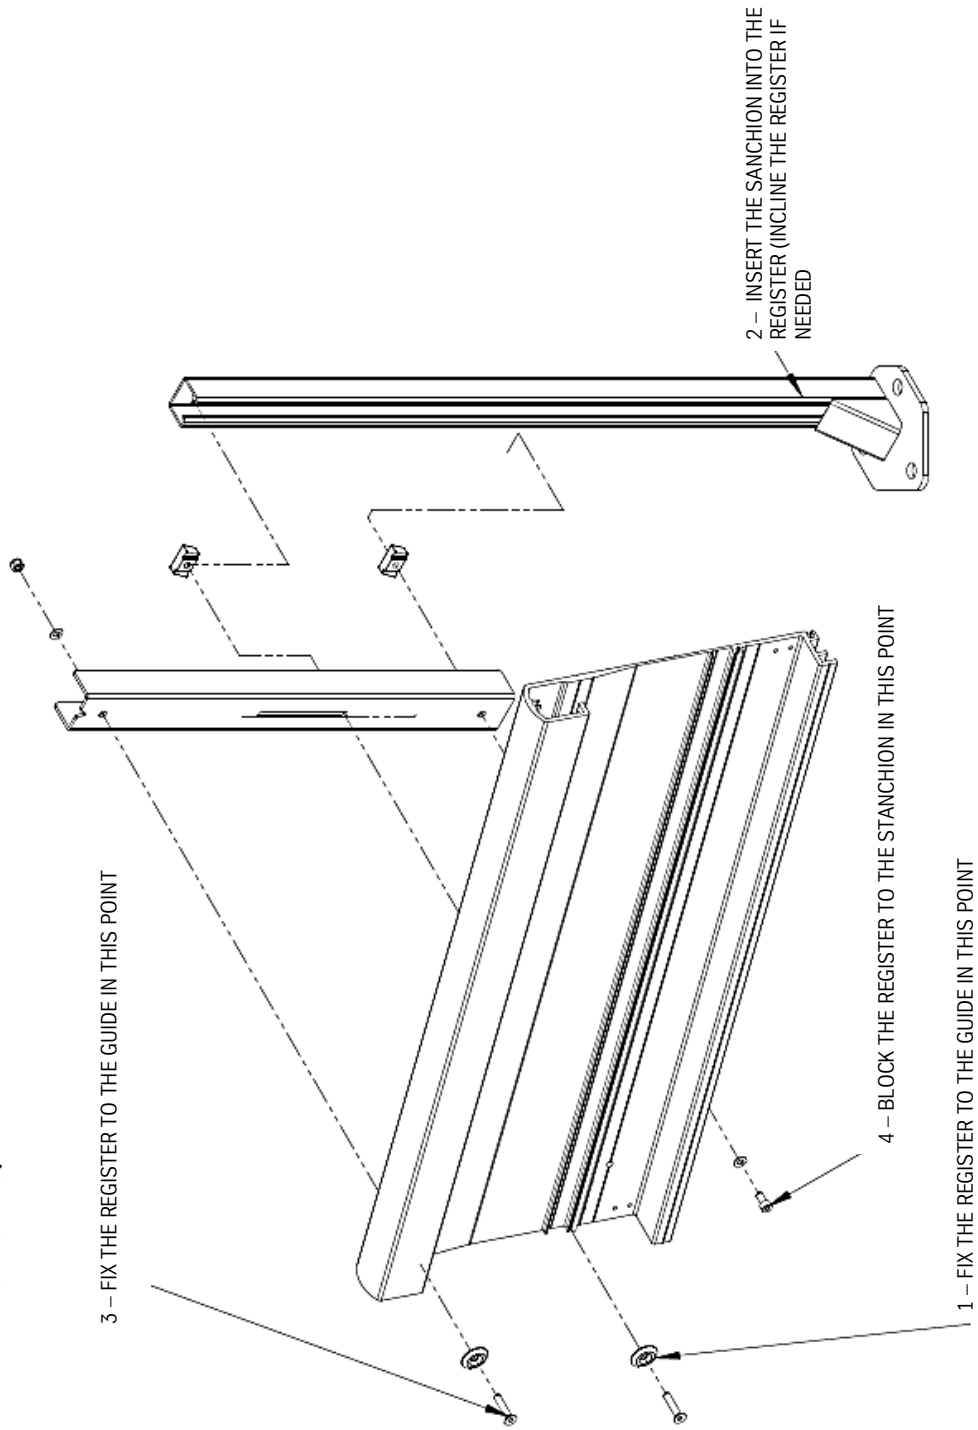

Fig. 2 – Foot assembly sequence
- In reference to **Fig. 2 – phase 1**, secure the register to the guide using the bushing, the M8 screw and the special nut included (the register is illustrated in **Fig. 8B**, assembly in **Fig. 8A**).
- Incline the register and insert the foot into it (**Fig. 2 – phase 2**). Ensure that the special nut threads onto the foot and tighten it by hand.
- Return the register and the foot to a vertical position, fasten the upper screw (with a lock nut) and the lower screw (with the other special nut) as indicated in **Fig. 2 – phase 3 and 4**.